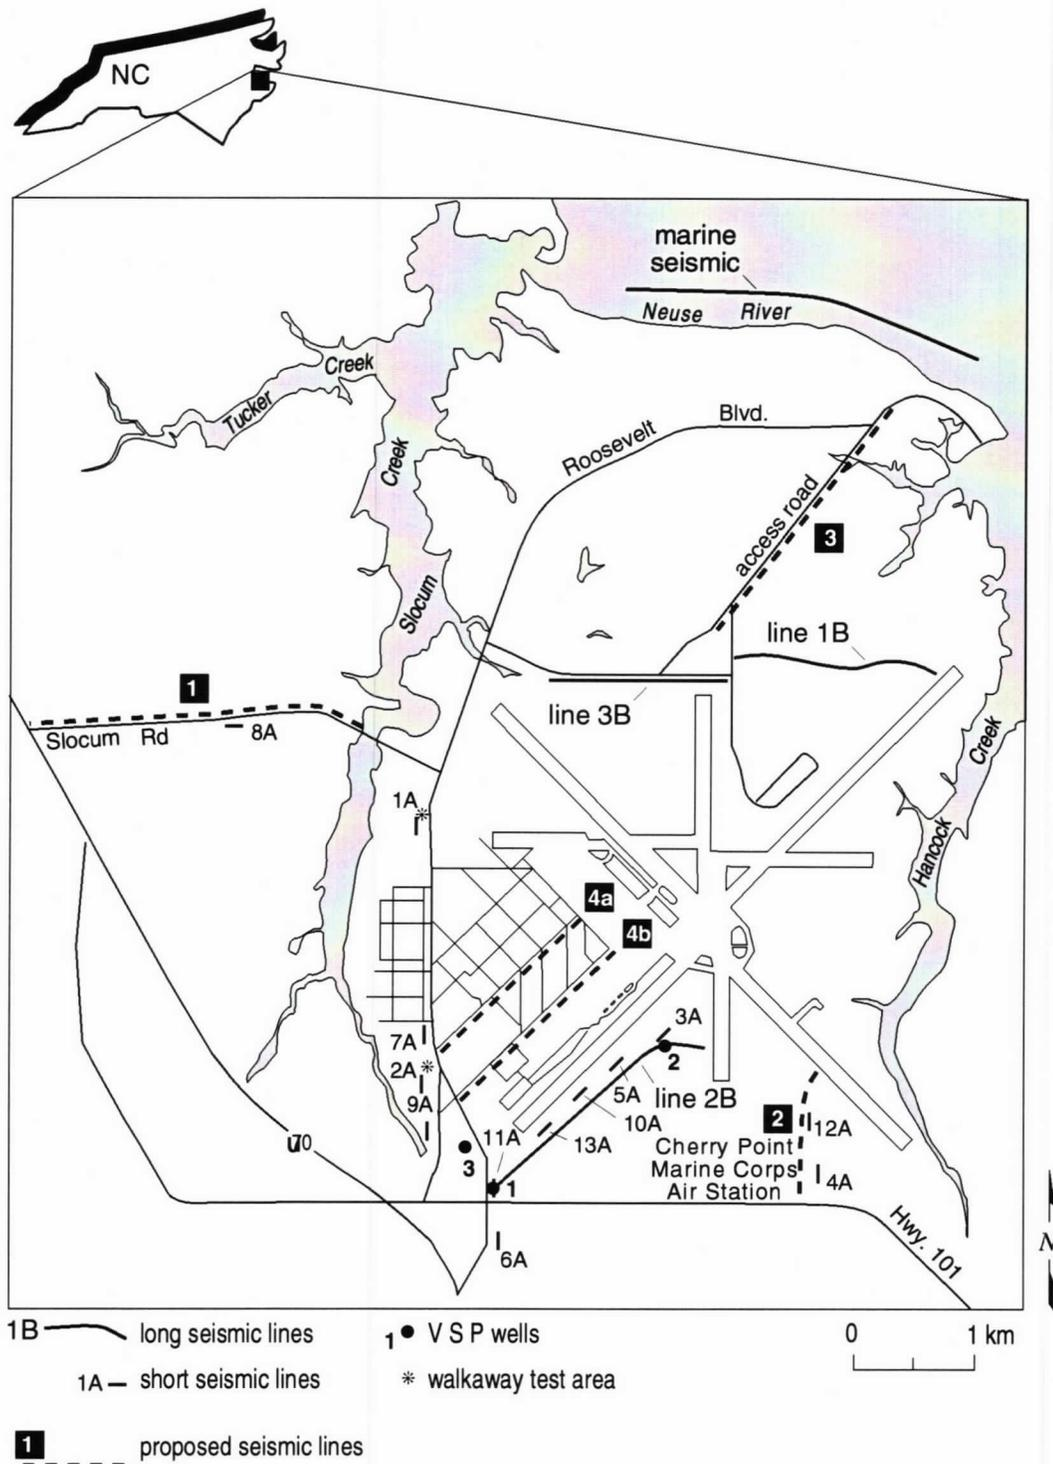

Figure 1. Site map of Cherry Point Marine Air Station indicating the major roads, rivers, runways, existing and proposed seismic lines, and VSP wells.
High resolution seismic techniques were successful delineating stratigraphic units and bedding geometries significant to the hydrologic modeling of unconsolidated sediments less than 60 m deep at Cherry Point Marine Air Base near Havelock, North Carolina (Miller et al., 1995a). Discontinuous confining units detected by seismic techniques and confirmed with drilling cannot be completely delineated and mapped with existing data. Approximately 6 km of surface high resolution seismic reflection profiling designed to complement profiles from previous KGS surveys will be necessary to delineate confining units and extrapolate inferred channel features across the base (Figure 1). Land seismic reflection data has demonstrated bed resolution potential on the order of 2 m and the imaging of sand/clay sequences separated by 6 to 9 m as determined by drilling. This survey is designed to provide continuous subsurface coverage in four areas of the Base presently possessing no subsurface control, or at best very localized drill and geologic information. The target of this survey is paleochannels suspected to underlie portions of the industrial area of the Base. Delineation of buried channels is critical to the characterization of the spatially varying hydraulic properties of aquifers and confining units in this area. Geologic interfaces between 10 and 60 m represent the window of interest on this survey. Thorough delineation of orientation and general geometry of the buried channel(s), as suggested by drilling and previous seismic surveys, should require about 6 km (4 miles) of subsurface coverage on 4 lines.
2) Contingent on the walkaway noise tests, 2-D profiles will be acquired approximately along the proposed lines (Figure 1). Data will be acquired on 48 recording channels (with the exception of any vibroseis data which will be acquired with 47 recording channels, reserving one for the pilot) in a roll-along format if the USGS requests the 48-channel method, or 180 recording channels in a fixed spread if the USGS approves the 240-channel deployment. Nominal 24-fold redundancy is anticipated for roll-along profiles and up to 180-fold for fixed-spread data.
Walkaway noise tests will be conducted near proposed seismic line 4 in the industrial area (Figure 1) and as near to a control well as possible. The walkaway will consist of source-to-receiver offsets ranging from 0.25 m to approximately 90 m. The downhole 30.06 firing rod (Miller et al., 1989), OYO/Geometrics Microvibrator, various hammer and plate combinations, and slide hammer will be tested to determine the optimum source for the predominant asphalt and cement near-surface conditions. Experience with source testing (Miller et al., 1986; Miller et al., 1992; Miller et al., 1994; Doll et al., 1998) will greatly enhance both the quality and the efficiency of source evaluations at this site.
potential (Miller et al., 1989; 1990; Miller and Steeples, 1991) (Figure 1). The main distinctions relate to the emphasis placed on velocity analysis (Miller, 1992; Miller and Xia, 1998), lack of extensive wavelet processing, care and precision placed on muting, step-by-step analysis of effects of each operation on reflected energy, limiting statics operations (maximum shifts no greater than 1/4 wavelength of the dominant reflection energy with correlation windows at least 10 times the dominant wavelength), and coincident iterative velocity and statics analysis.